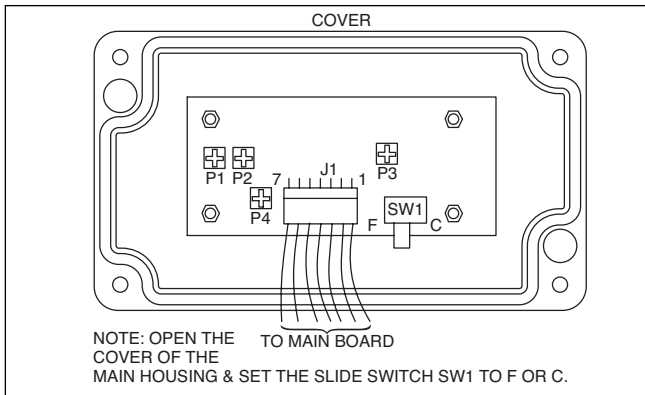

Figure 3-4. Setting the Temperature Engineering Unit
- ✓ The temperature display is set to °F or °C (Fig. 3-4)